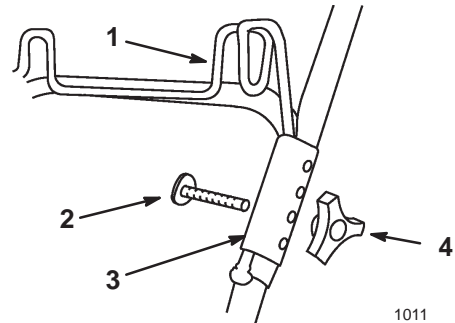

Figure 40
9. Remove the knob and bolt that secure the left side upper and lower handle sections (Fig. 40).
- Remove the bolts and knobs securing the hanger clamps to the handle sections (Fig. 40).